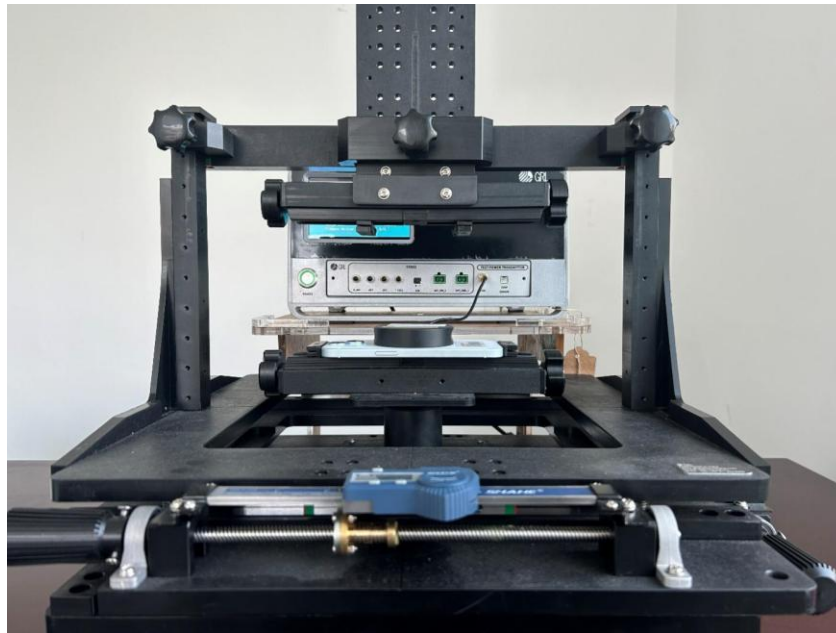

FIGURE 2.9: FIND OPTIMUM COIL POSITION - #1
1. Adjust the PRx DUT in the GRL Platform Solutions PTx Coil to align with the magnetic position on the positioning tool as shown in Figure 2.9 below.